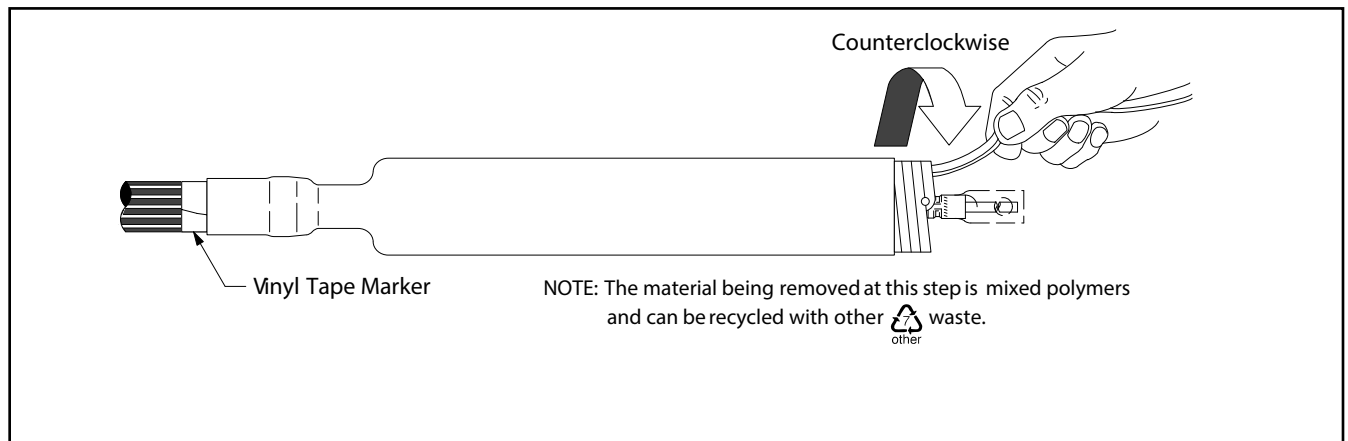

Figure 5
- 5.1 Slide the termination body onto the cable and remove core. Pull while unwinding counterclockwise starting with the loose end (Figure 5). Make sure the termination body (not the core) is butted up to the edge of the vinyl tape marker previously applied (Figure 5).